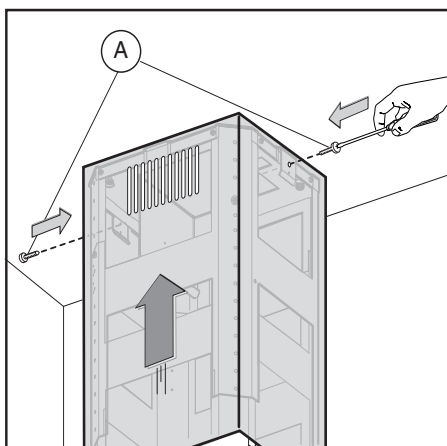

Fig.10
- Take the upper chimney piece and fix it to the structure using the 2 screws **A** (Fig.10).